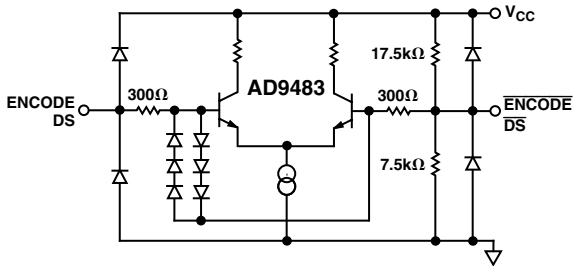

Figure 5. Equivalent Encode and Data Select Input Circuit
ENCODE and Data Select (DS) can be driven differentially or single-ended. For single-ended operation, the complement inputs ($\overline{\text{ENCODE}}$, $\overline{\text{DS}}$) are internally biased to $V_{\text{DD}}/3$ ($\sim 1.5\text{ V}$) by a high impedance on-chip resistor divider (Figure 5), but they may be externally driven to establish an alternate threshold if desired. A 0.1 μF decoupling capacitor to ground is sufficient to maintain a threshold appropriate for TTL or CMOS logic.
Note the 6-diode clock input protection circuitry in Figure 5. This limits the differential input voltage to $\pm 2.1\text{ V}$. When the diodes turn on, current is limited by the 300 Ω series resistor. Exceeding 2.1 V across the differential inputs will have no impact on the performance of the converter, but be aware of the clock signal distortion that may be produced by the nonlinear impedance at the converter.